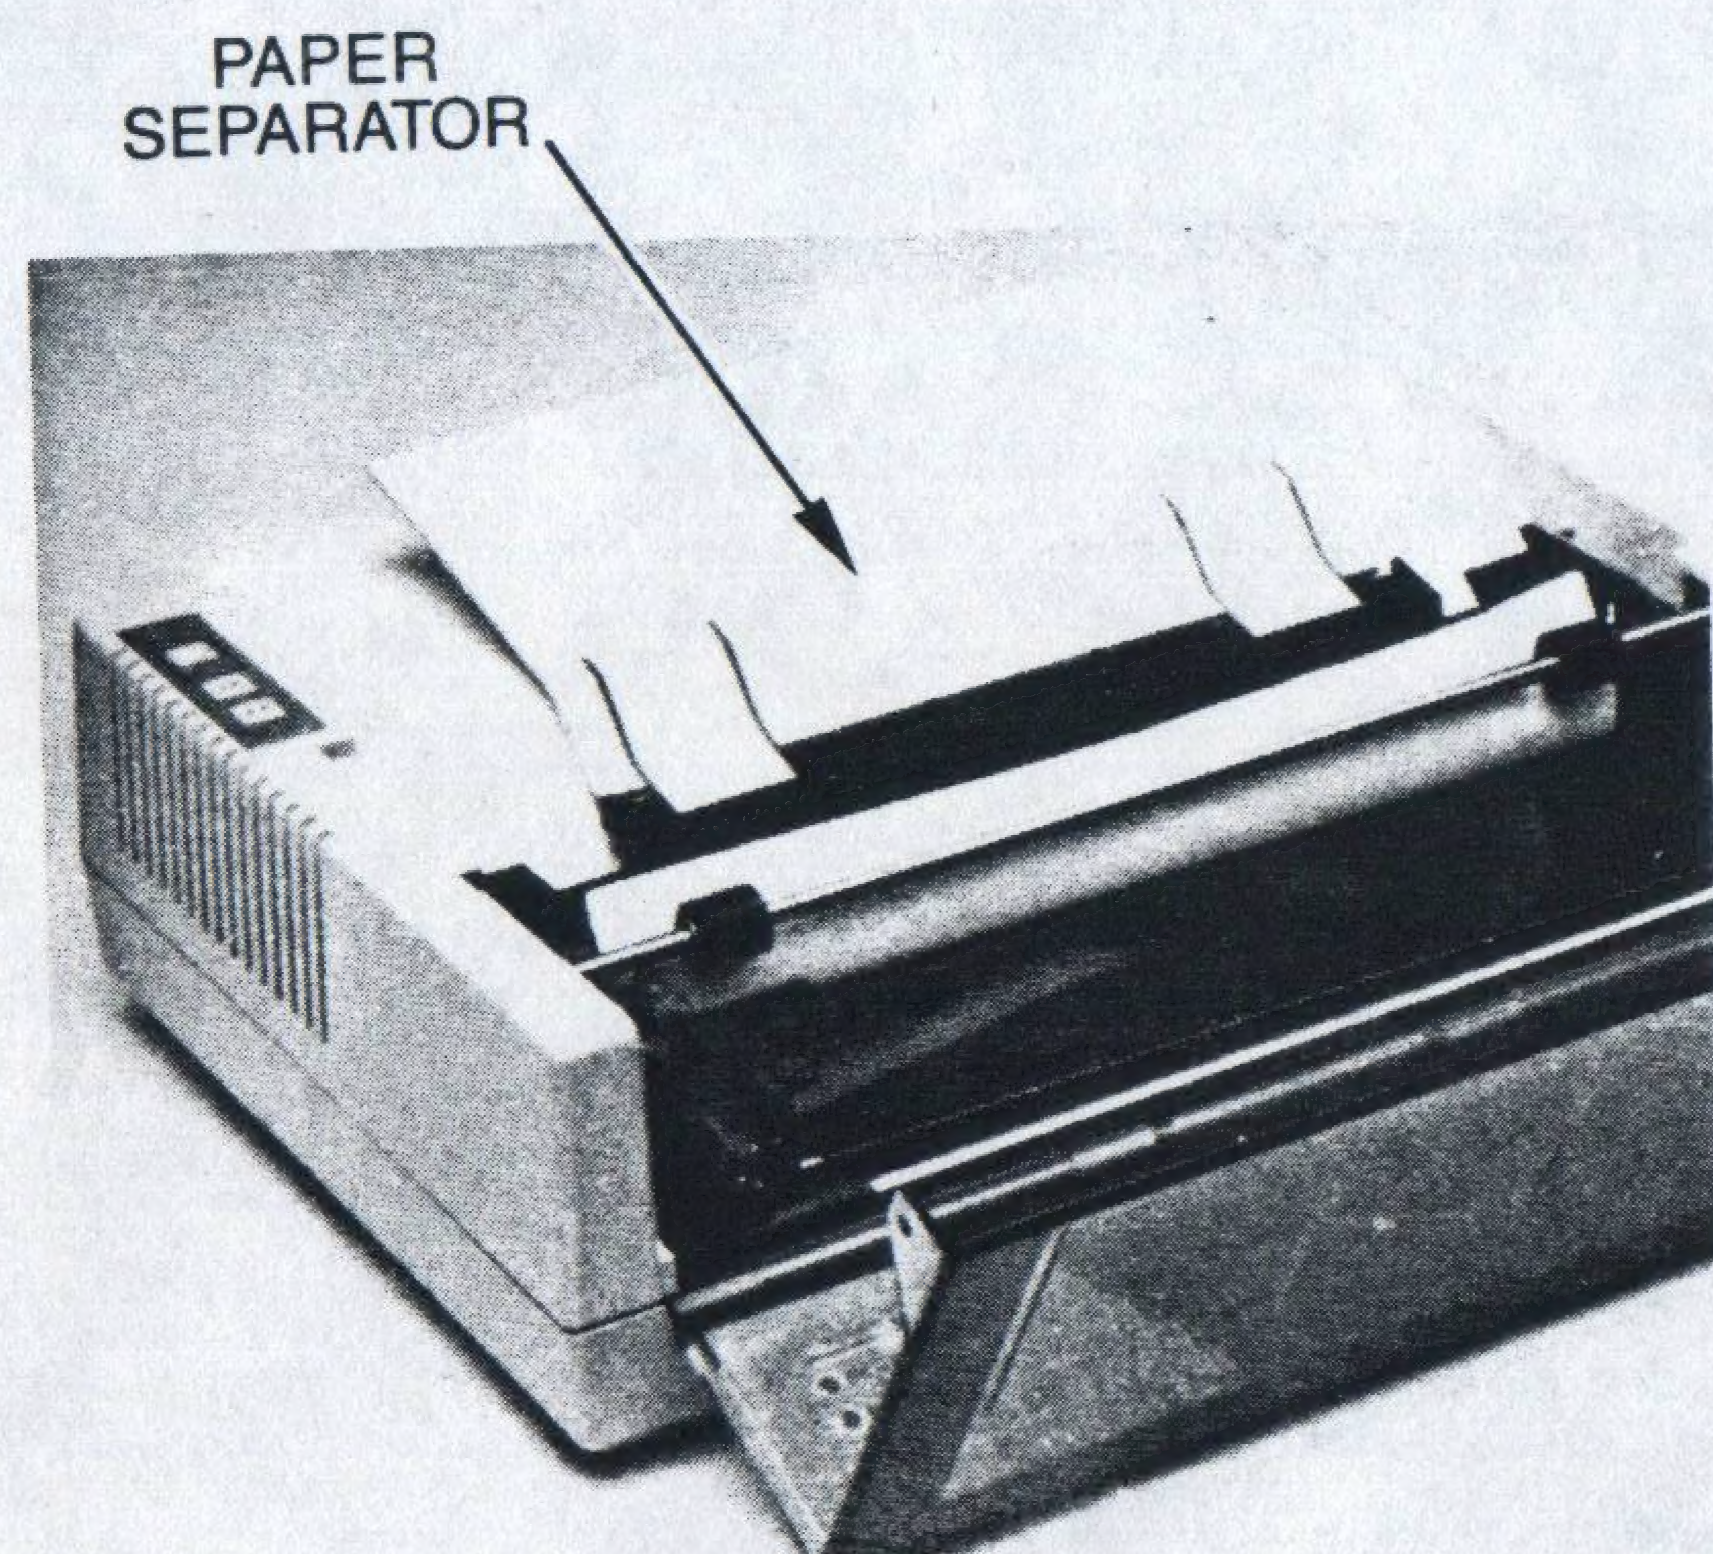

Figure 1-14 Paper Separator Operating Position
- Lower the paper separator to the operating position as shown in Figure 1-14.